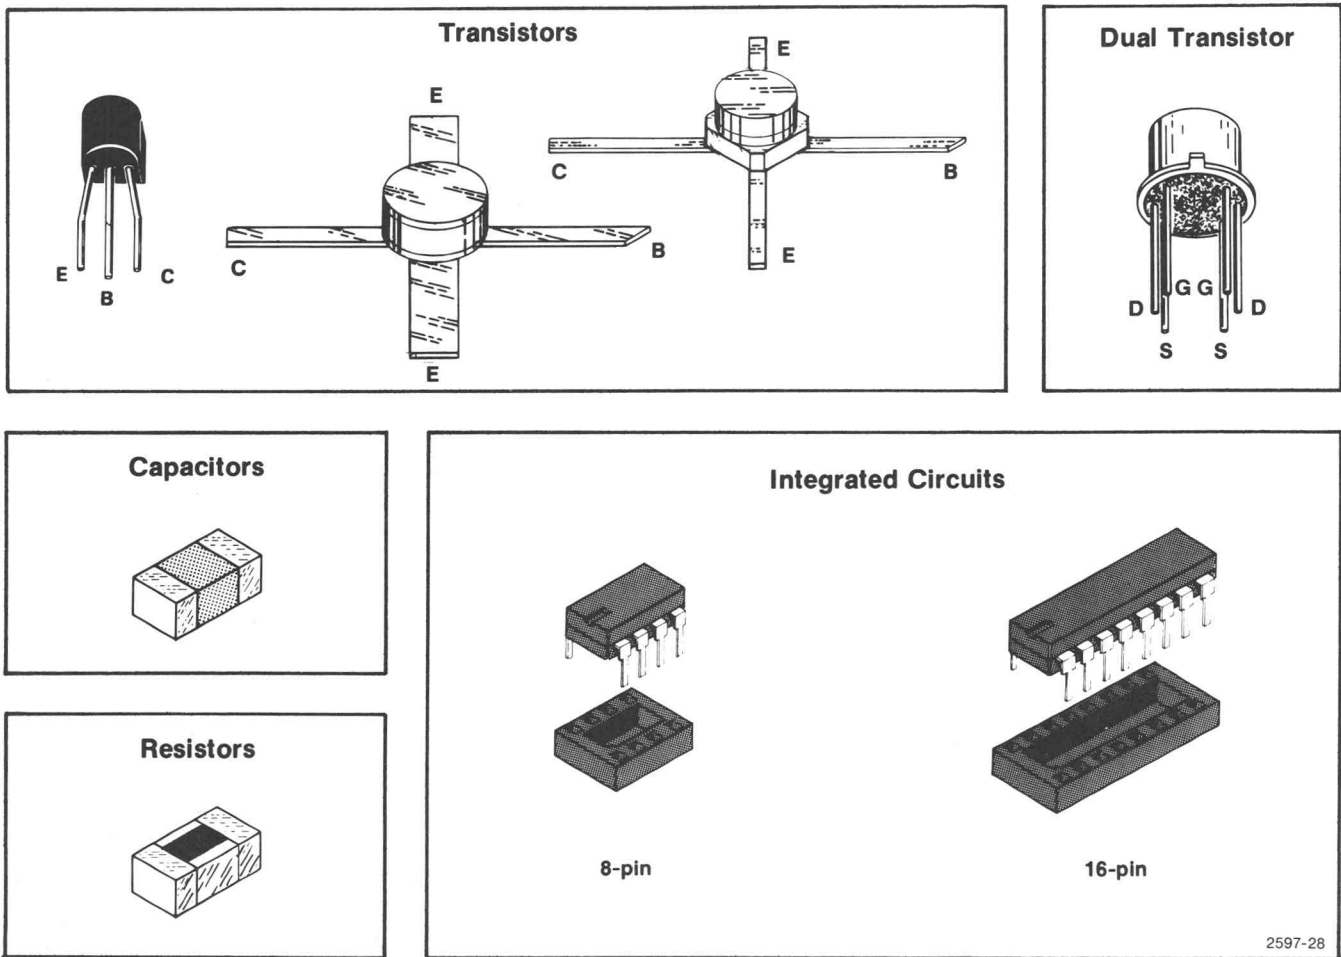

Fig. 5-3. Component Basing Diagrams.
Transistors. Lead identification for the transistors and IC is shown in Fig. 5-3.
- Be sure the component is inserted properly in its socket (see Fig. 5-3 or the manufacturer's data sheet).